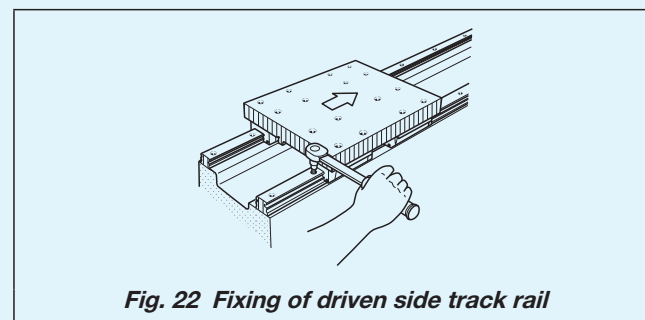

Fig. 22 Fixing of driven side track rail
- Move the table and fix the Linear Way II track rail ensuring smooth motion status. At this point, tighten each fixing bolt immediately after the fixed slide unit of the Linear Way II passes on each of it. Repeat this method from one end to fix the track rail in order. (See Fig. 22)